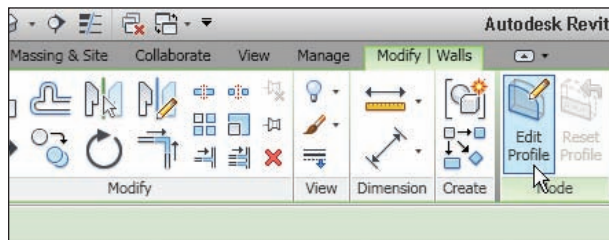

FIGURE 7.32 Attaching the top or the base
2. On the Modify | Walls tab, notice there is an option to attach the top or base of the wall, as shown in Figure 7.32. Click the Attach Top/Base button.